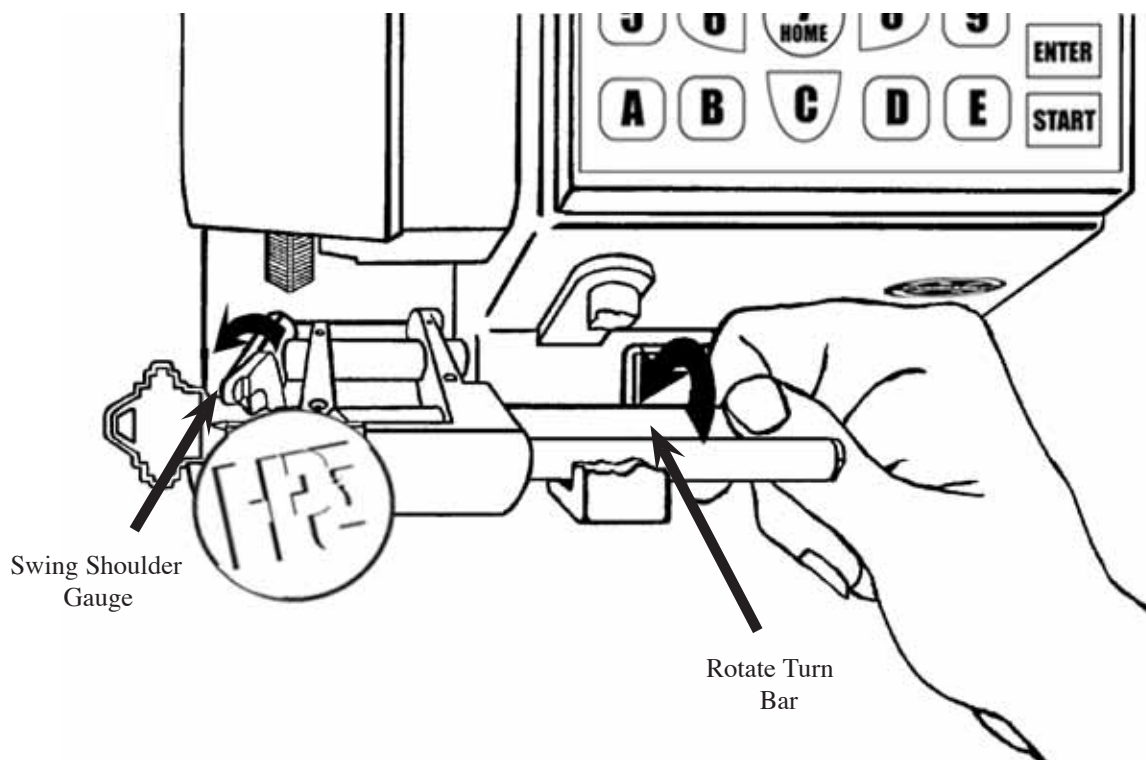

Fig. 2
Note: If the Turn Bar does not rotate, squirt some WD-40, or equivalent, on the threaded end. Then work it loose by simultaneously swinging the Shoulder Gauge and rotating the Turn Bar. (See Fig. 2)
- 10) Swing the key Shoulder Gauge down to release the Turn Bar. Then, firmly gripping the right end of the Turn Bar so that it remains stationary, swing the key Shoulder Gauge up against the key. Rotate the Turn Bar to the desired position and hold it there. The Shoulder Gauge should just touch the shoulder of the key (see Fig. 2). Now, without rotating the Turn Bar any more, tighten the set screw that holds the Turn Bar.